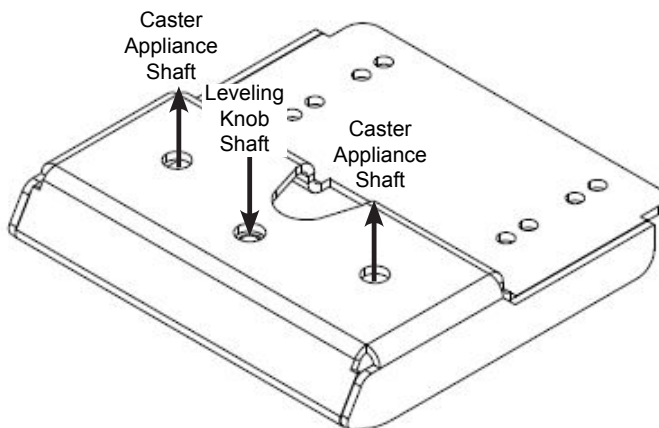
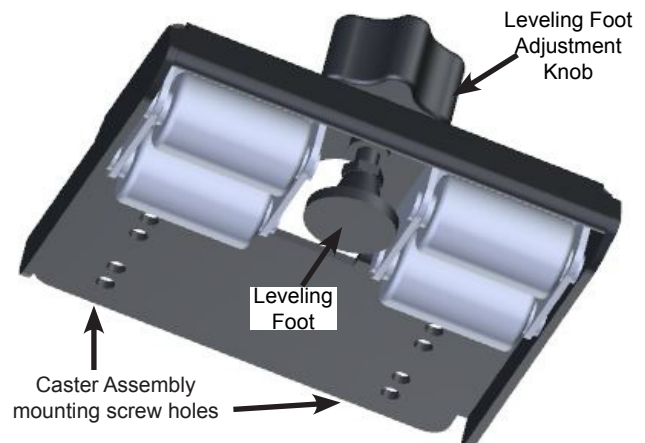

FIGURE 1 CASTER BRACKET
FIGURE 2 CASTER ASSEMBLY - DETAIL
4. Screw the leveling knob through the 1/4"-20 pinnut in the Caster Bracket. (Figure 1, Figure 2)
5. Press the Leveling Foot over the end of the leveling knob shaft. (Figure 2)